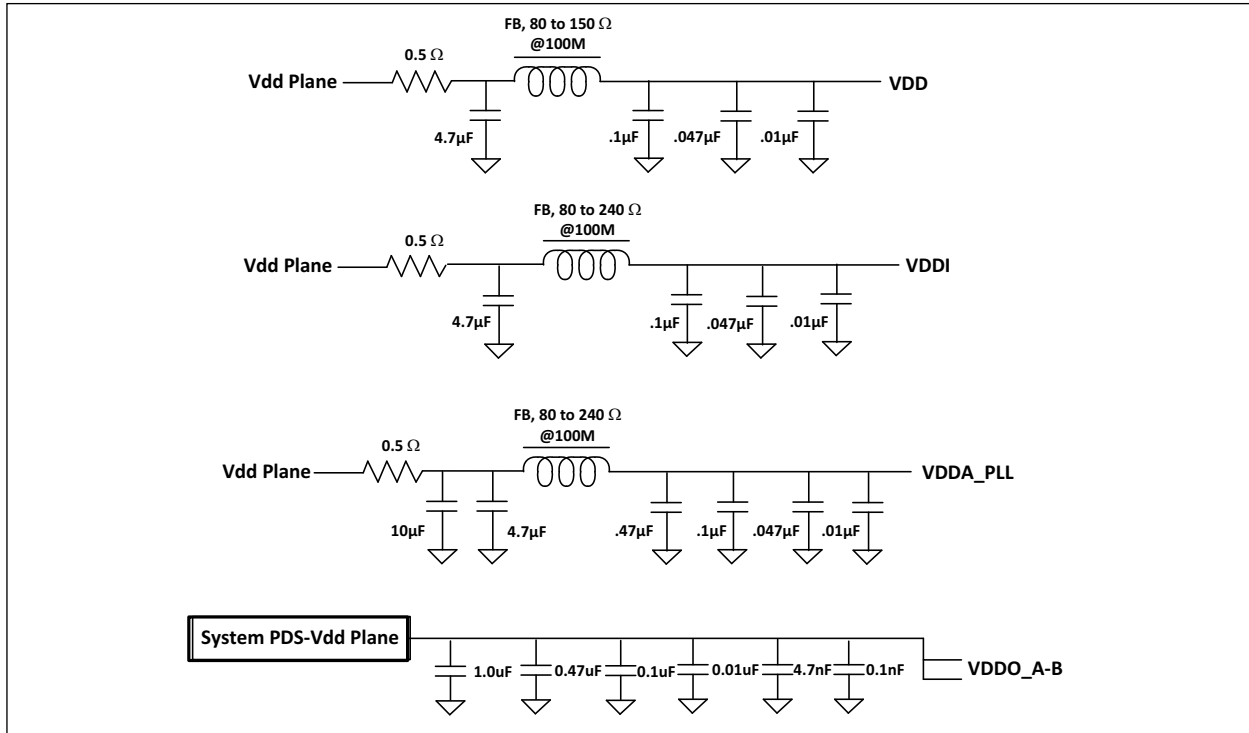

FIGURE 5-1: Recommended Power Supply Filtering.
- Use the power supply filtering shown in Figure 5-1 for V_{DDAP1} , V_{DDAP2} , V_{DDI1} , and V_{DDI2} .